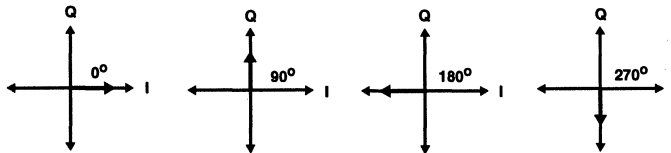
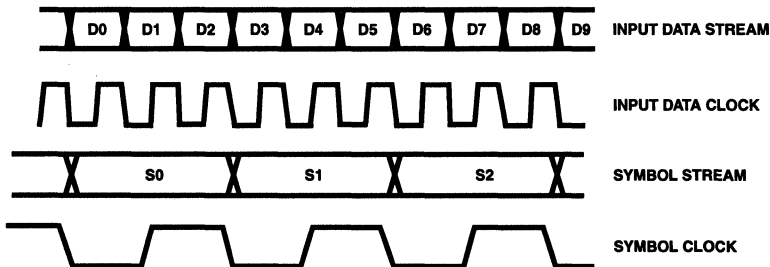
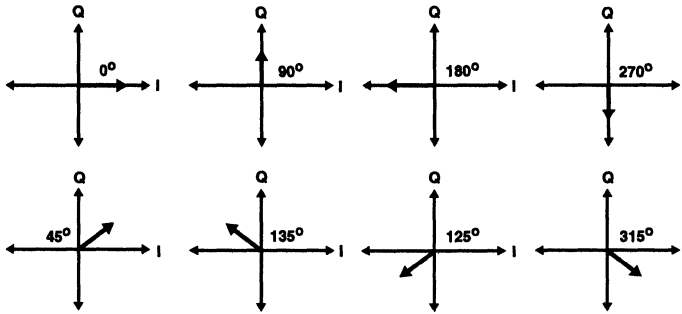

FIGURE 4. VECTOR REPRESENTATIONS OF THE QPSK SYMBOLS CREATED FROM TWO DATA BITS
FIGURE 5. DATA TO SYMBOL RELATIONSHIPS FOR 8PSK MODULATION
FIGURE 6. VECTOR REPRESENTATIONS OF THE 8PSK SYMBOLS CREATED FROM THREE DATA BITS
in-phase and quadrature components. Two data bits will determine in which of four phase states the carrier will be placed: 0° , 90° , 180° , or 270° . This phase shift is accomplished using the I (in-phase) and (Q) quadrature orthogonal vectors as shown in Figure 4. Figure 5 illustrates the data and symbol relationship for 8PSK, while Figure 6 shows the possible carrier vectors created for a symbol.